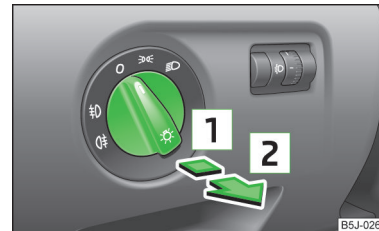

Fig. 43
- First turn the light switch » Fig. 43 to position ⚡ or ⚡.
- First turn the light switch » Fig. 43 on page 61 to position  or .